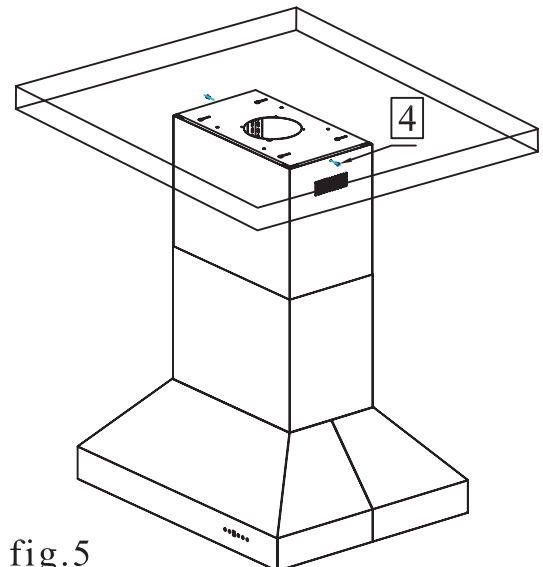

fig.5
**Step five:** Slide the inner chimney up over the top mounting plate securing with two screws provided. Pull the lower section down to rest on top of the main hood. fig 5.
3. Install #6 x 1/2" screws through the pre-drilled EZ mount holes into the decorative hood structure. Tap chrome cap into EZ mount holes for flush appearance See Figure 5.